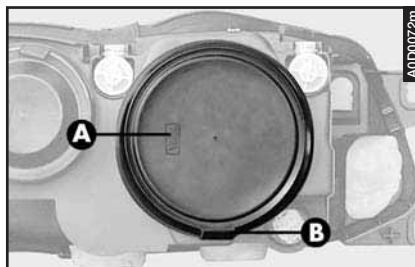

fig. 39
- Remove the rubber cap (**A- fig. 39**) by pulling the tab (**B**).